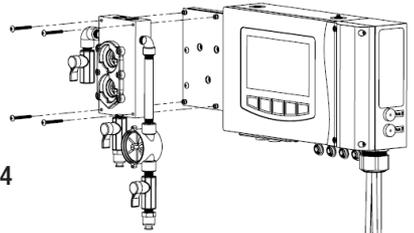

Fig 4
5. Assemble the unit as described in Figure 4.